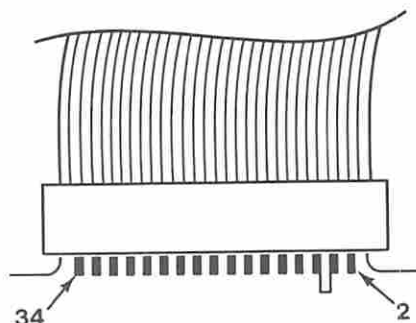

Figure 5. Voltage Check
- Measure the voltage between pin 26 of the signal cable connector and ground, as shown in Figure 5 on page 0600-8.